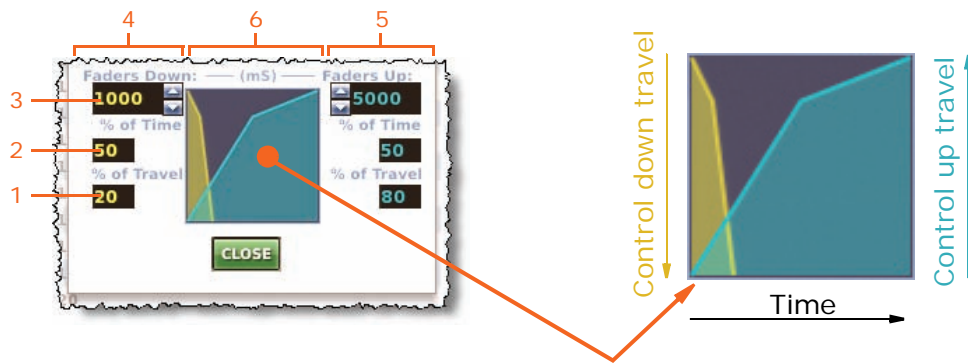

Figure 26: Crossfade set up section
- 8 In the crossfade set up section (see Figure 26 “Crossfade set up section” on page A-229), set up the crossfade parameters, such as time, % of travel etc.